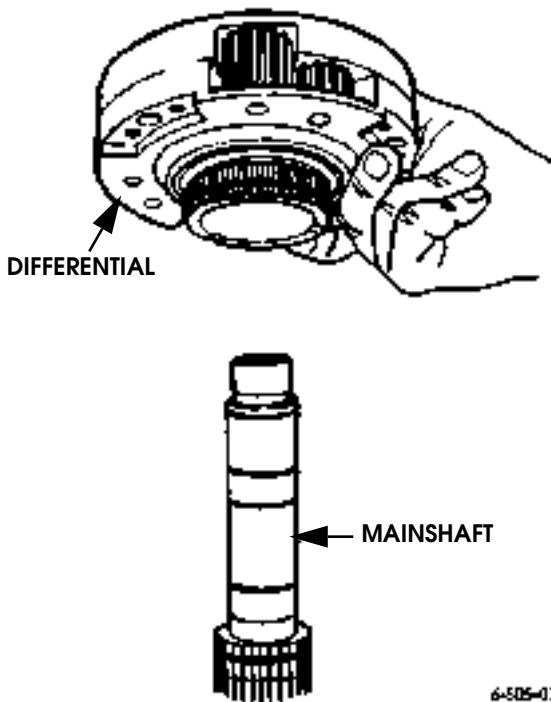

Figure 5-102: Differential Removal
24. Remove differential from mainshaft (Figure 5-102).